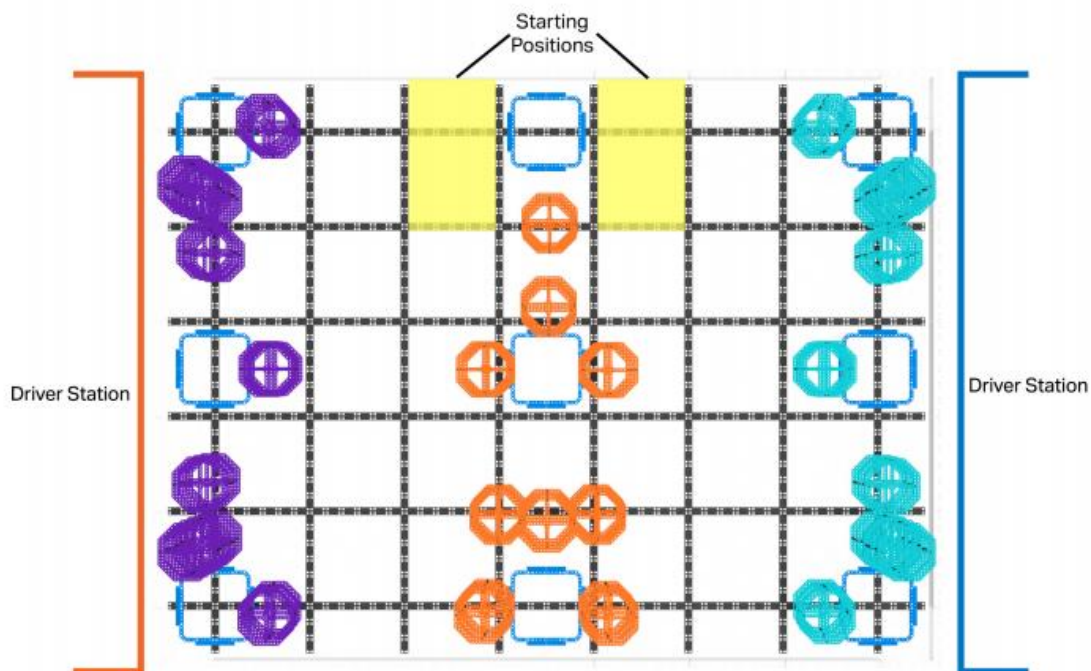

Figure 3: Overhead view of the Field for a Robot Skills Match. The Robot Starting Positions are highlighted.
Starting Positions – The two (2) designated 11” x 19” (279.4mm x 482.6mm) volumes of the Field where Robots must start the Match. Starting Positions are bounded by the inner edges of the long black lines, outer edge of the short black line, and the inner edge of the field perimeter. See Figure 3 for more details.